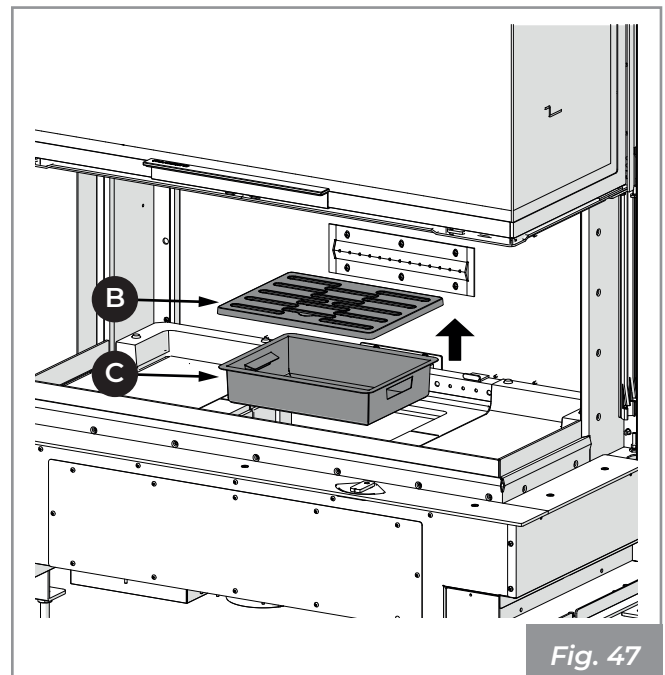

Fig. 47
- 2) Lift and extract the grate (B) and ash drawer (C) (Fig. 47).